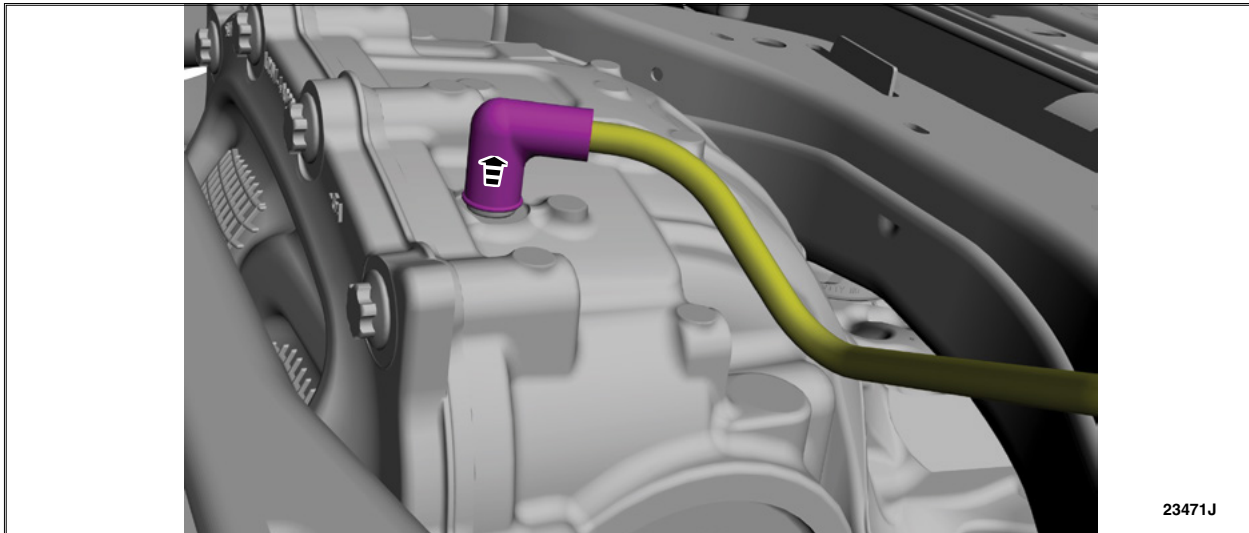

FIGURE 10
18. Disconnect and position the axle assembly vent hose aside. See Figure 10.